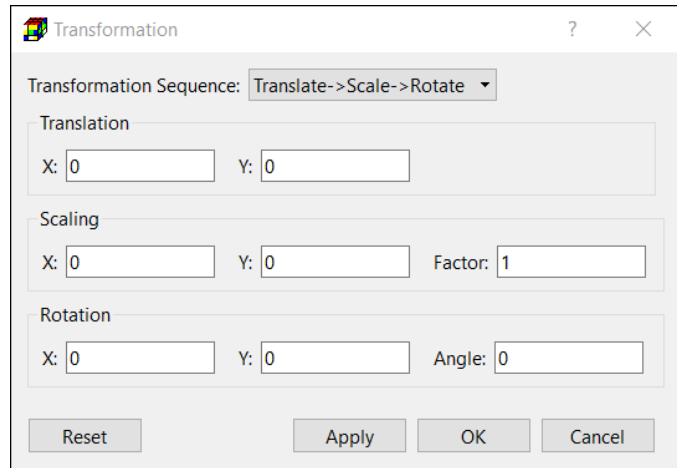

Figure 9. The Transformation dialog box
- **Transformation:** When the Geographic coordinate system (see Section 3.5.11) is used, Transformation is deactivated as the loaded shapefile is projected using its geospatial information data (proj file). When the Cartesian coordinate system is used, the loaded shapefile cannot be projected. However, you can use the Transformation dialog box (Figure 9) to transform the coordinates of all points in the shapefile. The options of the dialog box are as follows.